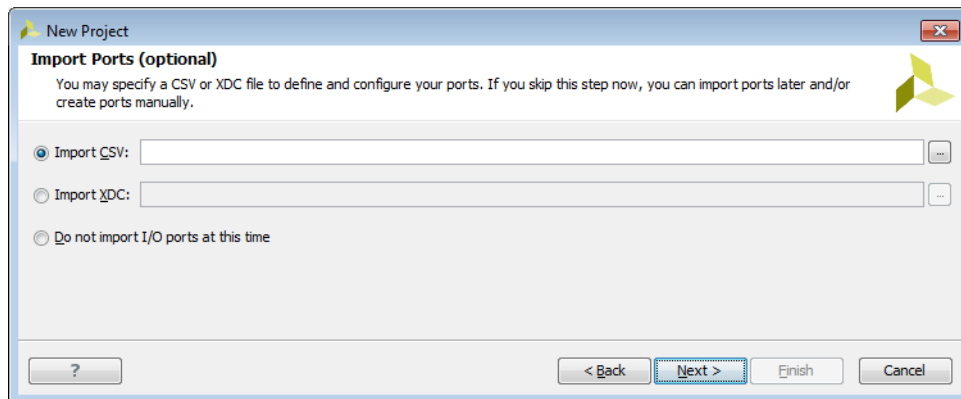

Figure 2-9: New Project Wizard—Import Ports Page
3. *Optional:* In the Import Ports dialog box (Figure 2-9), use the following options to select a file for importing I/O Port definitions and constraints, and click **Next**.